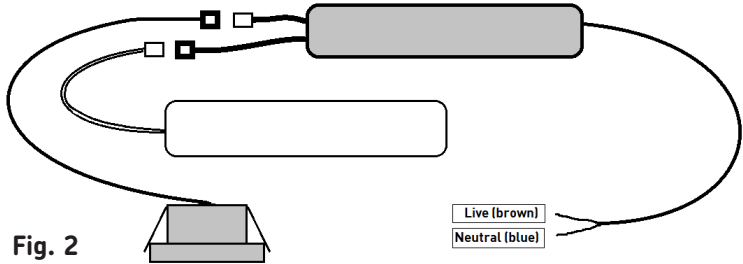

Fig. 2
- Connect the luminaire to the mains supply via a suitable junction box ensuring that correct polarity is observed: Live (brown) and Neutral (blue) (see Fig. 2)